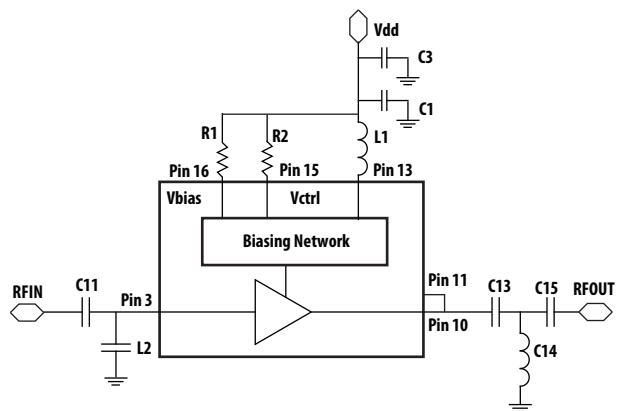

Figure 46. Circuit Diagram
1. V_{bias} and V_{ctrl} can be externally controlled by change external biasing resistors $R1 = R_{bias}$ and $R2 = R_{ctrl}$ (as shown in Fig. 46).
1. V_{bias} and V_{ctrl} can be externally controlled by change external biasing resistors R1 = R_{bias} and R2 = R_{ctrl} (as shown in Fig. 46).
1. Vbias and Vctrl can be externally controlled by change external biasing resistors R1 = Rbias and R2 = Rctrl (as shown in Fig. 46).